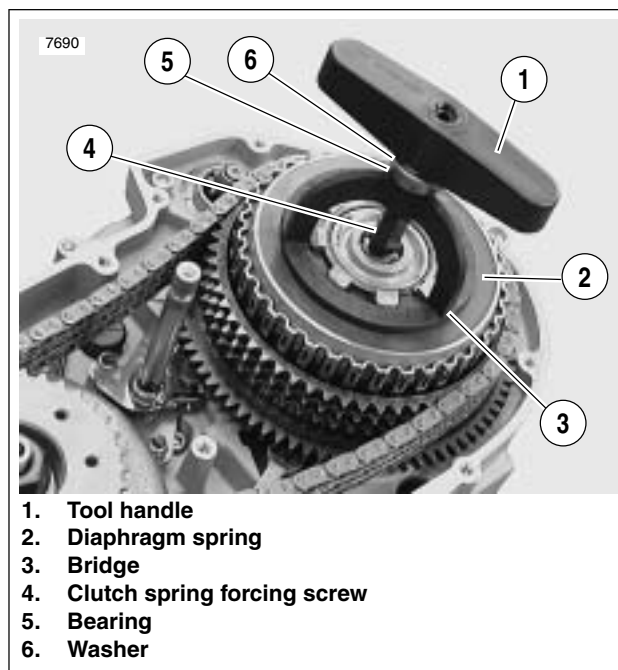

Figure 6-12. Compressing Clutch Diagram Spring
4. See Figure 6-12. Attach tools to compress clutch diaphragm spring (2).
- a. Thread the CLUTCH SPRING FORCING SCREW (4) (Part No. HD-38515-91) onto the clutch adjusting screw.
- b. Place the bridge (3) of SPRING COMPRESSING TOOL (Part No. HD-38515-A) against diaphragm spring.
- c. Install bearing (5) and washer (6).
- d. Thread the tool handle (1) onto end of forcing screw (4).